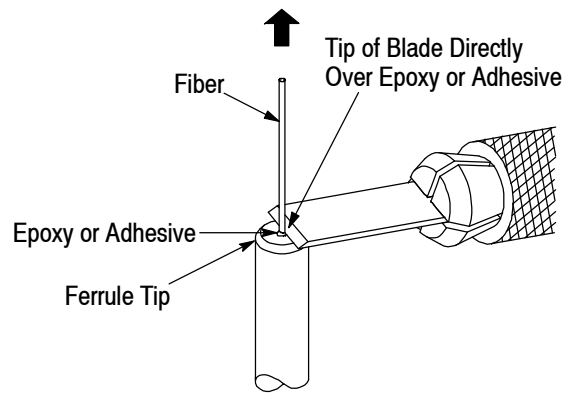

Figure 8
3. Place the blade of the scribe tool directly above the epoxy or adhesive. DO NOT allow the blade to make contact with the epoxy or adhesive. Refer to Figure 8.